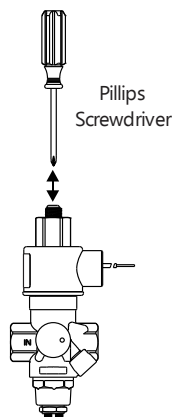

Figure 5: Manual Override Operation
- b. If power is lost to the solenoid, wait 15 minutes. Use manual override button (optional) on some BE58 models by depressing the reset (see Figure 5) if there is no power to the solenoid. Releasing pressure on the manual reset allows the button to return to its original position and internally open the valve, allowing gas to flow to the heater.